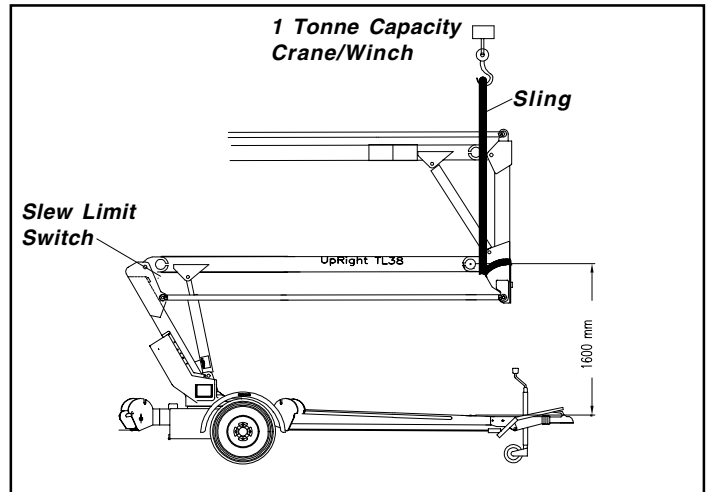

Figure 4-4: Supporting Elevating Assembly
4.6 Maintenance on Elevating Assembly (Figure 4-4)